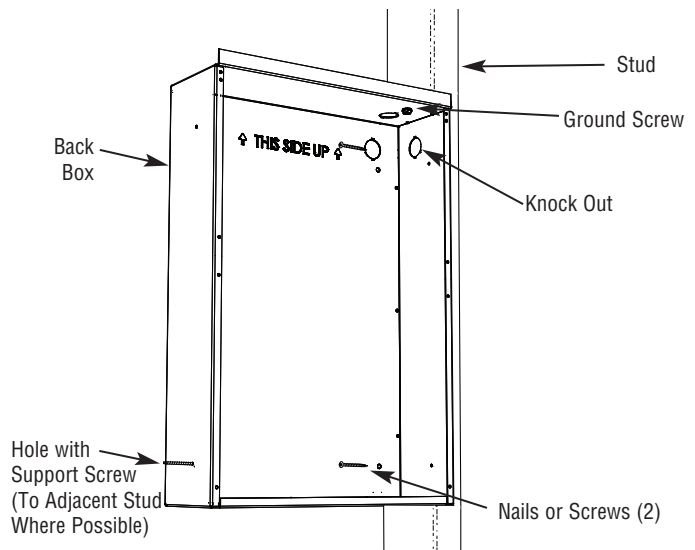

Figure 2 - Attaching Backbox to Stud
1. In new construction without the finished wall in place, position the back box against the side of stud allowing the side to extend beyond the stud so it will be flush with the finished wall surface. (You must know the thickness of the finished wall when installing) Secure the box to the stud using two screws (not included) as shown in Figure 2.
- a. When possible, install an additional long screw (such as a 3" wood screw) through the lower side mounting hole into the nearest stud (see Figure 2). Use care and do not over-tighten the screw as this will deform the backbox and make installation of the heater assembly difficult or impossible. Screw should only be tightened enough to keep screw in place.
- b. Drill a small hole in back box flush with the inside surface of the finished wall and install a screw (length not critical, but should be at least 1 inch) see Figure 2.
1. Locate a stud and carefully mark and cut a hole measuring 12-1/4" (311 mm) wide by 17-3/4" (451 mm) high so one side of hole is along the edge of a stud – see Figure 2.
3. Fit back box into opening aligning sides of box flush with finished wall surface and secure box to stud using two screws (not included) as shown in Figure 2.
5. Insert one #8, three inch long wood screw (not provided) through the free side of the back box not mounted to the stud and secure in the lower mounting hole. This will prevent the back box from pull out on the unsupported side when installing the heater assembly. Be careful not to drive the wood screw more than 3/8" into the stud. Too much would cause the back box to pull out of alignment. See Figure 2.